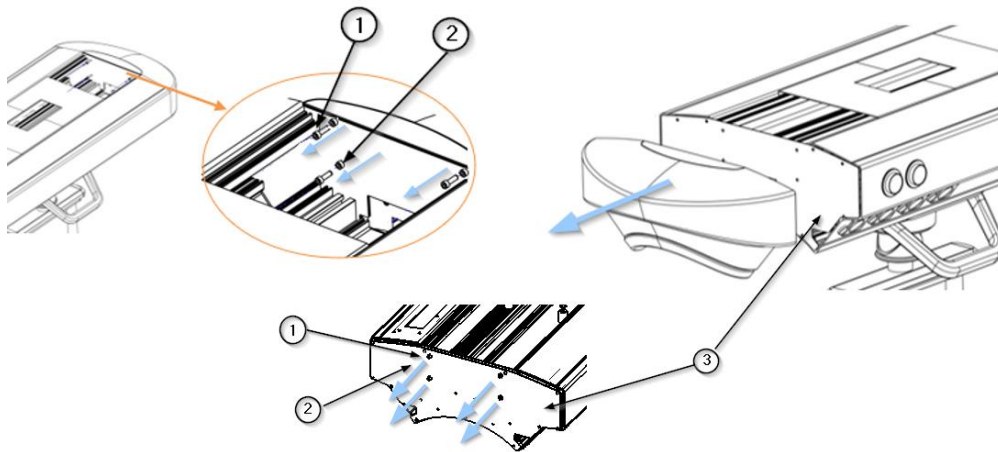
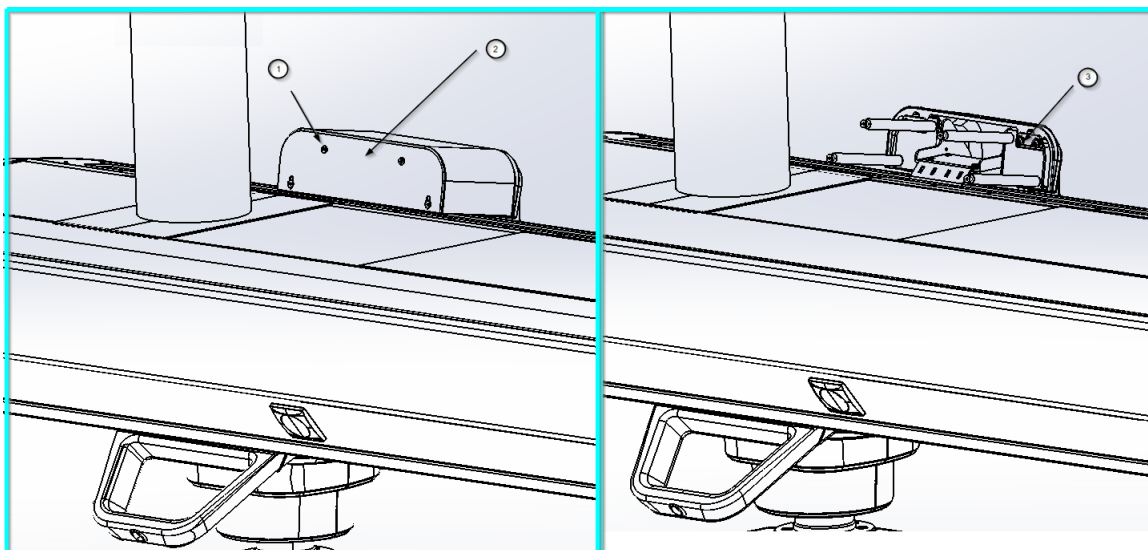

Fig. 3 Disassembly/assembly of end caps on ABITUS main body
Fig.4 Removal of the top trim
- Unscrew the fixing screws ① holding the upper trim ② as shown on the left in figure 3.
- Remove the top trim ②
- Unscrew the Allen fixing screws ③ from the top of the rear trim ④ as shown on the right in figure 4.
- Unscrew the Allen screws ⑥ securing the trim plates ⑦ and the Allen screws securing the lower part of the rear trim as shown in figure 4.
- Remove the rear trim ④.
Do not unscrew the central Allen screw (marked with a red cross in figure 4), otherwise the carousel will rotate freely and the rotation can no longer be limited.
The stop socket head cap screw (2) will then appear as shown in the lower part of figure 4 (detail at the bottom right of the figure).
- Unscrew and remove the Allen screw (2).